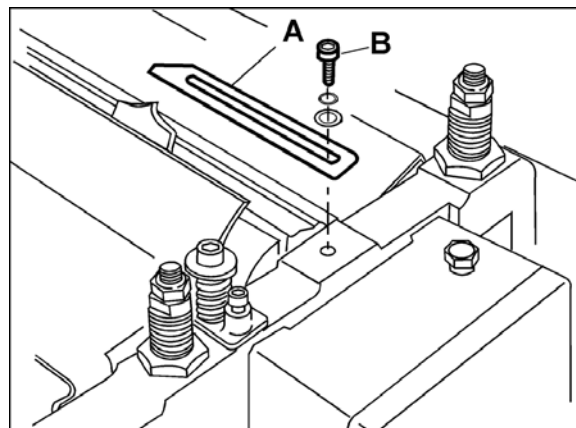

Figure 32
3. Mount the molding cutter gauge (A, Fig. 32) to the threaded hole in the casting with the socket head cap screw, lock washer and flat washer (B, Fig. 32). The guide may be attached to either side.
4. Adjust the gauge (A, Fig. 32) so that the end of it meets the pattern knife, then tighten the screw (B, Fig. 32).
6. Rotate the cutterhead and adjust the other two knives to meet the the gauge (A, Fig. 32).